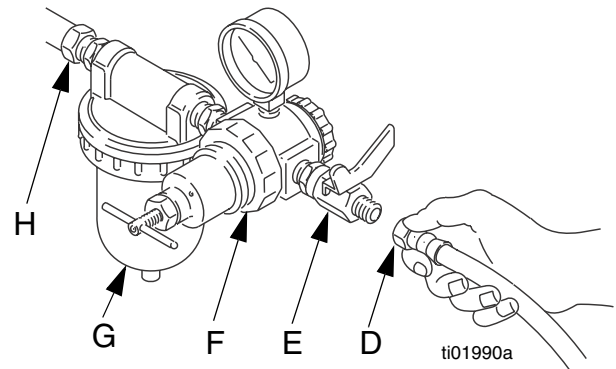

FIG. 5: Connect Air Line
- If your regulated air source does not have a filter, install an air filter (G) on each air line to ensure a dry, clean air supply to the gun. Dirt and moisture can ruin the appearance of your finished workpiece. See FIG. 5.